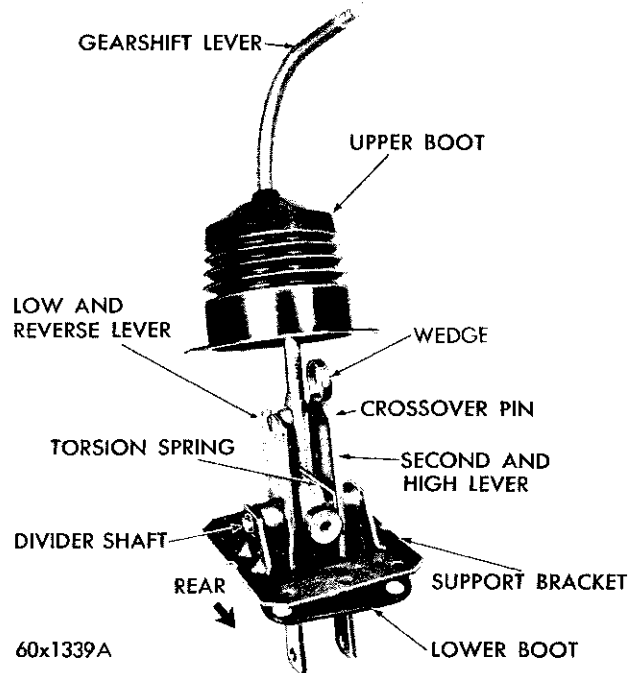

Fig. 10—Positioning Crossover Pin
(1) Remove the screws that hold the upper boot and retaining ring to the floor pan.
(2) Remove the retaining ring and slide the boot up on the gearshift lever far enough to expose the shift mechanism.
(3) Disconnect the first and reverse shift rod by removing the spring clip, flat washer and the wave-washer. Disengage rod from lever.
(4) Disconnect the second and high shift rod by removing the spring clip, flatwasher and the wave-washer. Disengage the rod from the lever.
(5) Place the transmission shift levers in the neutral position.
(6) Slide a wedge between the second and high lever and gearshift fork, as shown in Figure 10. (This will position the cross-over pin partially in the first and reverse and second and high shift levers, thus locking the gearshift and shift levers in the neutral position.)
(7) Pre-set the length of the first and reverse shift rod (primary adjustment) by loosening the locknut on the end of rod, which is threaded through the swivel block.
(8) Turn the swivel block either in or out to properly position the hand lever and shift levers in neutral position. (Correct neutral position is where the shift levers are in a direct vertical position with the floor pan.)
(9) Loosen the clamping nut that holds the second and high shift rod in the swivel block.
(10) Slide the swivel block either to the front or rear on the rod, until the stud shaft on the block can be inserted into its lever. Split the backlash of the rod, then install the lever. Install the remaining flatwasher and spring clip and tighten to 100 inch-pounds torque.
(11) Remove the wedge. Slide the upper boot down into position and install the retaining ring and screws. Tighten screws securely.
#### SERVICING THE GEARSHIFT ASSEMBLY (Fig. 10) Removal
**Assembly (Fig. 10)**
(1) Slide each lever on the divider with the narrow shoulder (and nylon bushing bearing surface) down against the shoulder.